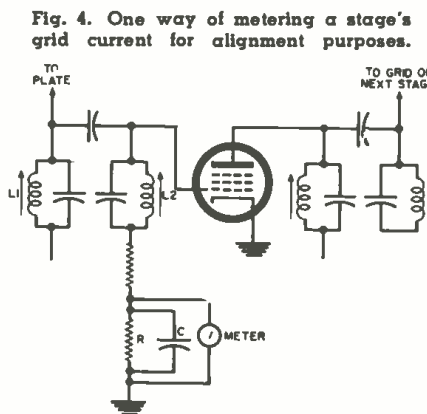

Fig. 4. One way of metering a stage's grid current for alignment purposes.
Thus, by setting up "metering points" in the grid return circuit of a stage, the amount of current can be read on a sensitive meter, as shown in Fig. 4. A "metering resistor" (R) is inserted in the grid circuit, bypassed for r.f. (by C), and the indicating meter connected across the resistor.